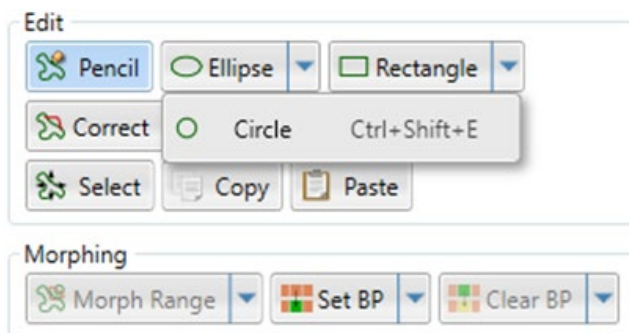

Figure 19: Screenshot of "Edit" & "Morphing" boxes for contour creation and morphing. The "Select" and "Circle" tools are also shown.
2. At the bottom middle of the screen, there exists a lower threshold box, which is located to the right of a slider named “Lower:”. Adjust the lower threshold value in the box as necessary by switching between the mask  (or “F5” key) and the image  (“F6” key) to determine the best value (increasing the lower threshold decreases the mask’s area). Once the mask appears as close to the original bone as possible, record the lower threshold value. Refer to Figure 19 for help regarding what is considered a “good” lower threshold value, and please seek the Lab Manager if you are experiencing difficulties.